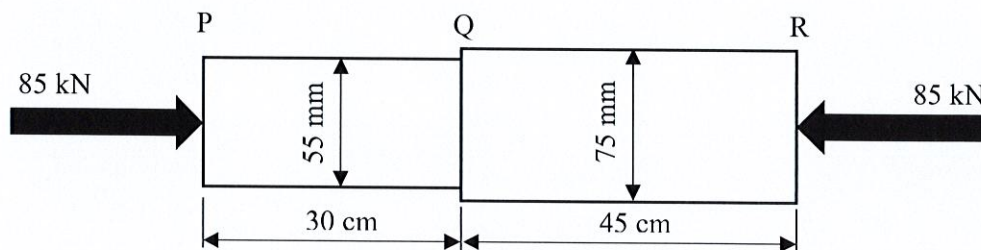

Figure 1(b) / Rajah 1(b)
- (b) A composite bar, consisting of Aluminium at PQ and Copper at QR are subjected to compressive load of 85 kN as illustrated in Figure 1(b). If PQ bar has diameter of 55 mm and QR bar has diameter of 75 mm, calculate;
- (c) A composite parallel bar is made of **TWO (2)** bars, that are bronze and copper with an initial temperature of 25 °C as shown in Figure 1(c) below. The copper diameter is 50 mm and 85 mm for bronze. The bar was rigidly fixed at both ends. Calculate the stress in each bar when the temperature is risen to 75 °C;